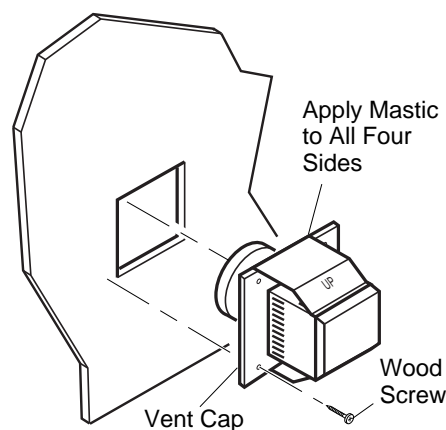

Figure 13 - Installing Horizontal Vent Cap
- Apply a bead of non-hardening mastic around the outside edge of the vent cap. Position the vent cap in the center of the 7 1/2" or 10" hole on the exterior wall with the arrow on the vent cap pointing up. Insure proper clearance of 1" to combustibles is maintained. Attach the vent cap with four wood screws supplied (see Figure 13). **Note:** Replace the wood screws with appropriate fasteners for stucco, brick, concrete, or other types of siding.